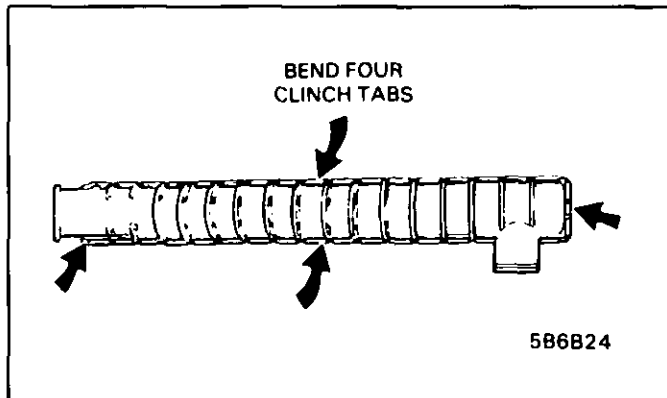

Fig. 36 Seating Tank to Core
9. Position the tank and gasket to the header, clamp it in place and secure it by bending four clinch tabs as shown in Fig. 36.